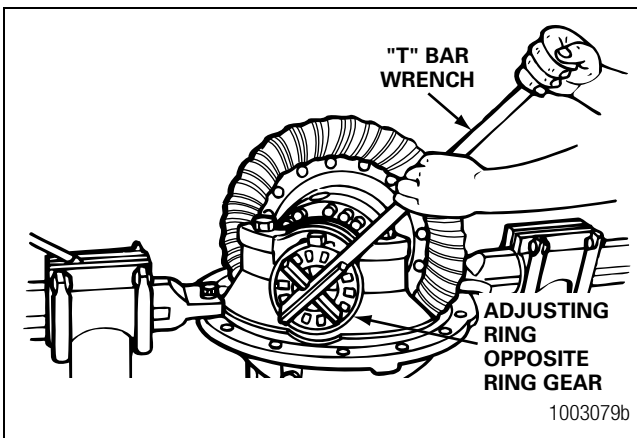

Figure 5.51
2. Use a "T" bar wrench to loosen the bearing adjusting ring that is opposite the ring gear. A small amount of end play will show on the dial indicator. Figure 5.51.